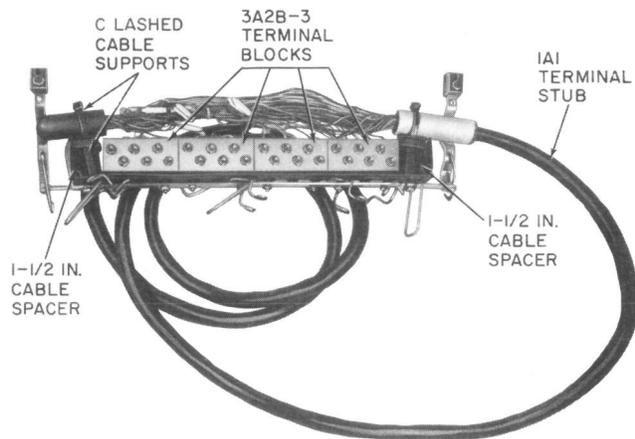
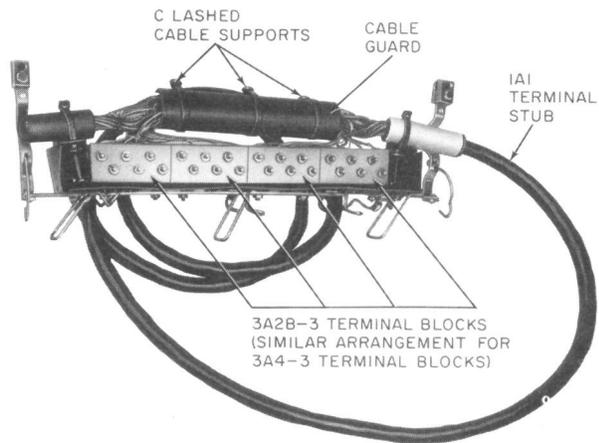

Fig. 11—49C2 Cable Terminal with 3A2B-3 Terminal Blocks—1A1 Terminal Stub Installed
Fig. 12—Completed Splice—Fixed Count (49C2 Cable Terminal with 3A2B-3 Terminal Blocks)
(4) Place 1A1 or 1B1 terminal stub in cable terminal and secure with C lashed cable supports. Figure 11 shows 1A1 terminal stub installed in a 49C2 cable terminal with 3A2B-3 terminal blocks.
(5) Splice assigned pairs (See 631-240-100).
(6) Where **fixed count** version is desired, place the cable guard over the entire splice as shown in Fig. 12. Secure with lashed cable supports furnished with the terminal.